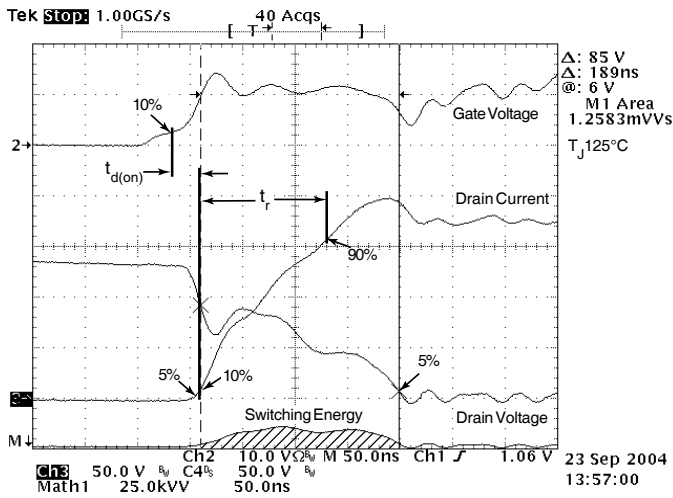

Figure 18, Turn-on Switching Waveforms and Definitions
① Repetitive Rating: Pulse width limited by maximum junction temperature
② Pulse Test: Pulse width < 380 μs , Duty Cycle < 2%
③ See MIL-STD-750 Method 3471
④ Starting $T_j = +25^\circ C$, $L = 0.23mH$, $R_G = 25\Omega$, Peak $I_L = 176A$
⑤ dv/dt numbers reflect the limitations of the test circuit rather than the device itself. $I_S \leq -I_D 176A$ $di/dt \leq 700A/\mu s$ $V_R \leq V_{DSS}$ $T_J \leq 150^\circ C$
⑥ E_{on} includes diode reverse recovery. See figures 18, 20.